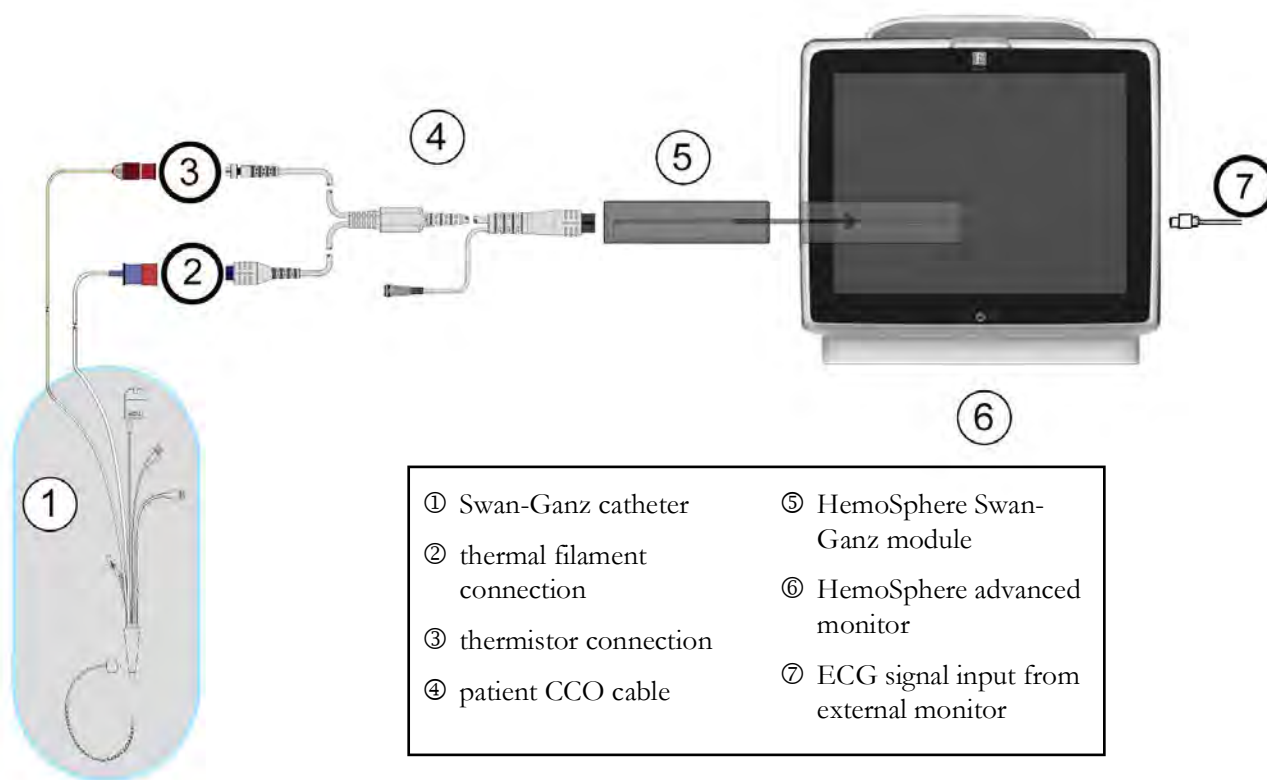

Figure 9-8 EDV/RVEF connection overview
- 2 Attach the catheter end of the patient cable to the thermistor and thermal filament connectors on the Swan-Ganz CCombo V catheter. These connections are emphasized by ② and ③ in figure 9-8.